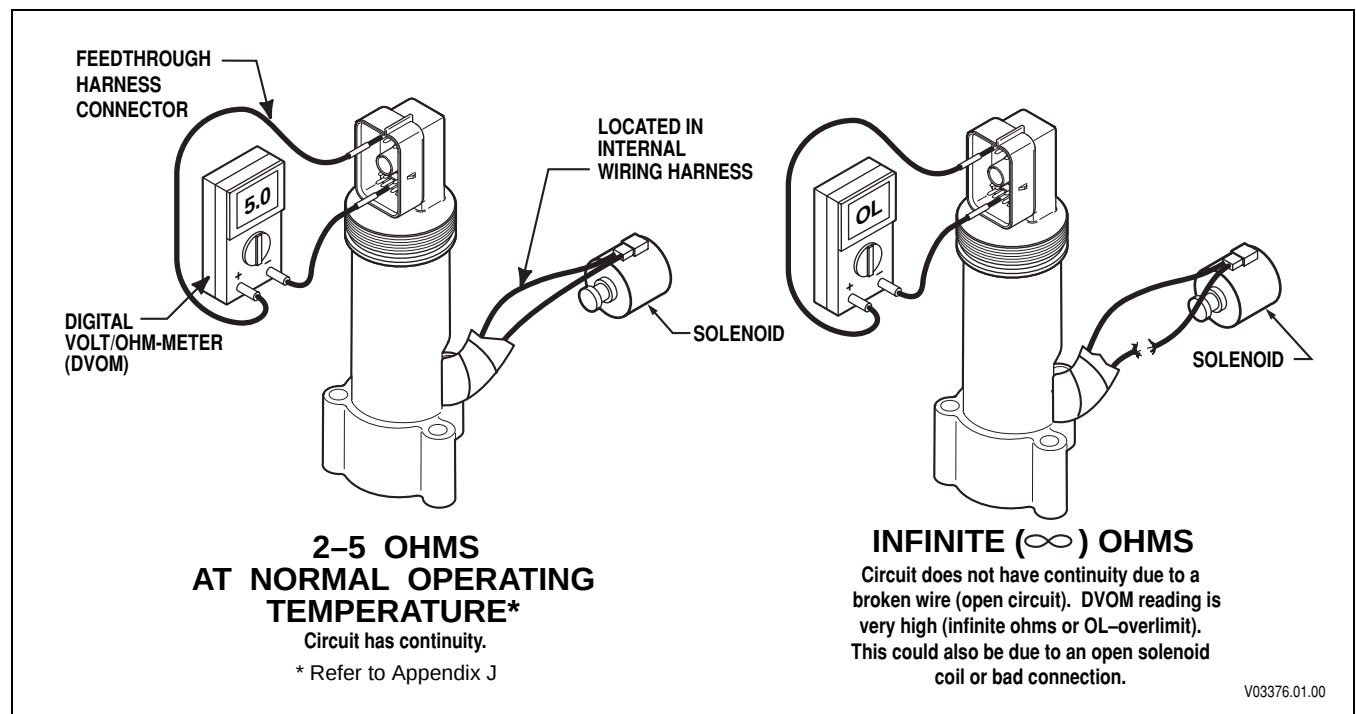

Figure 4-3. Checking Continuity
3. If the connectors are clean and connected correctly, determine which wires in the harness to test. Use the DTC system schematic to locate the wire terminals. For this example, Code P0960 indicates an open in the Main Mod solenoid circuit, wires 111 and 174 (Figures 4-3 and 4-4).